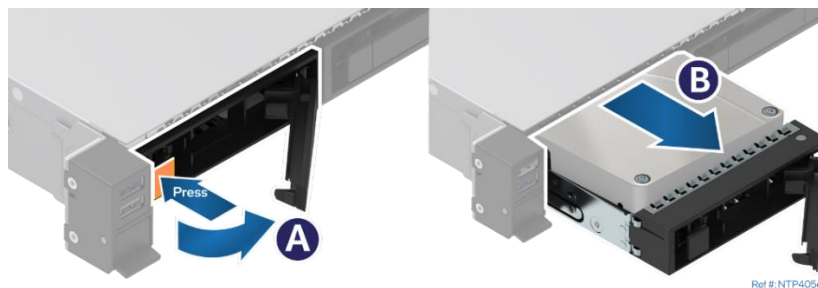

Figure 29. Extracting Drive Carrier from Chassis
1. Remove the selected drive carrier from the front drive bay (see Figure 29)